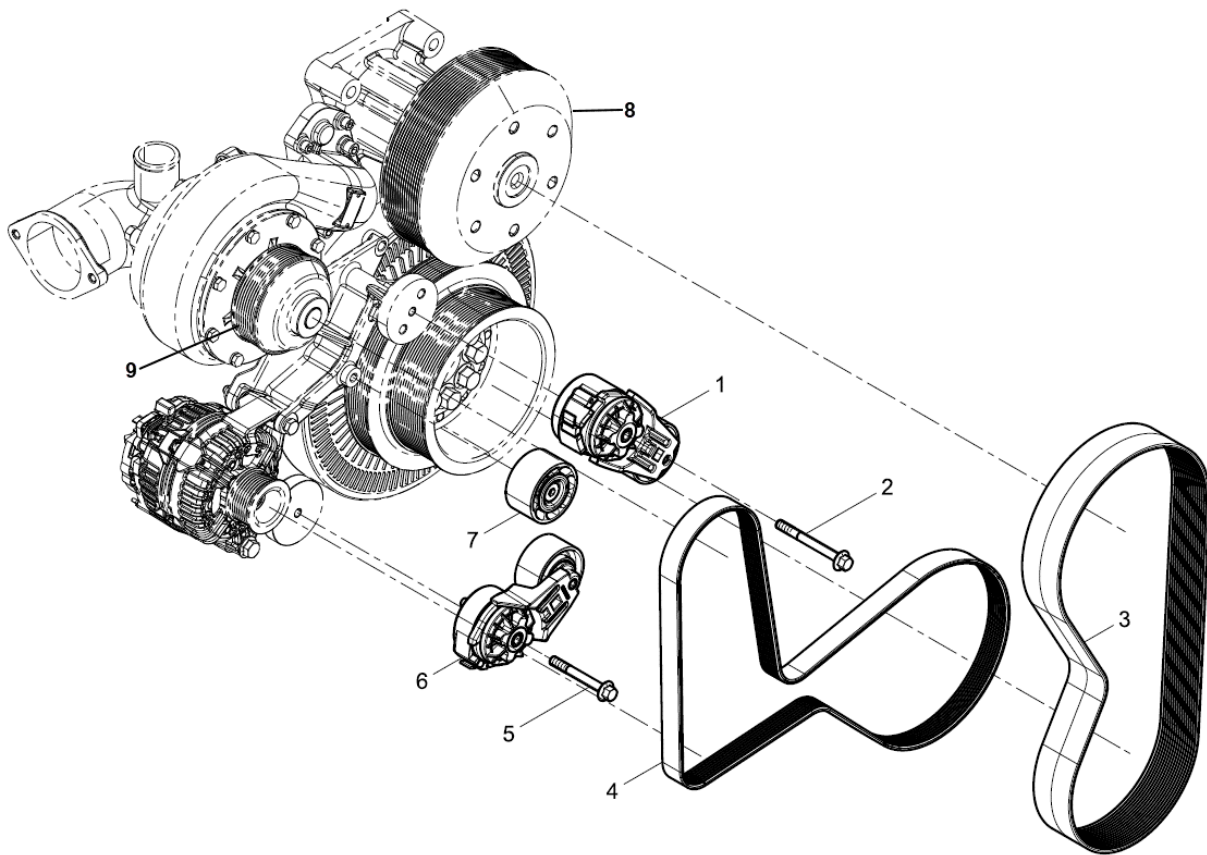

Figure 13. Front Engine Accessory Drive Assembly
1. Remove bolt (Figure 13, Item 5).
2. Remove the right-hand automatic belt tensioner (Figure 13, Item 6).
1. Place the right-hand automatic belt tensioner (Figure 13, Item 6) onto the tensioner bracket.
2. Insert and torque the bolt (Figure 13, Item 5).
1. Insert a ½” drive ratchet or breaker bar into the square hole on the automatic belt tensioner. Pull the ratchet to take the tension off the automatic belt tensioner and remove the serpentine belt (Figure 13, Item 3).
2. Remove the bolt (Figure 13, Item 2).
3. Remove the serpentine automatic belt tensioner (Figure 13, Item 1).
1. Place the serpentine automatic belt tensioner (Figure 13, Item 1) onto the bracket.
2. Insert and torque the bolt (Figure 13, Item 2).